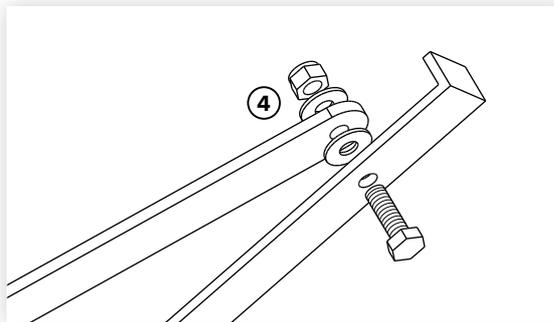

figure 6
6. Carefully rotate the upper stay arms and attach the upper and lower stay arms together using fixings ④ (figure 6). **Do not let go of the upper stay or let it swing in an uncontrolled manner until the fixings are secured.**